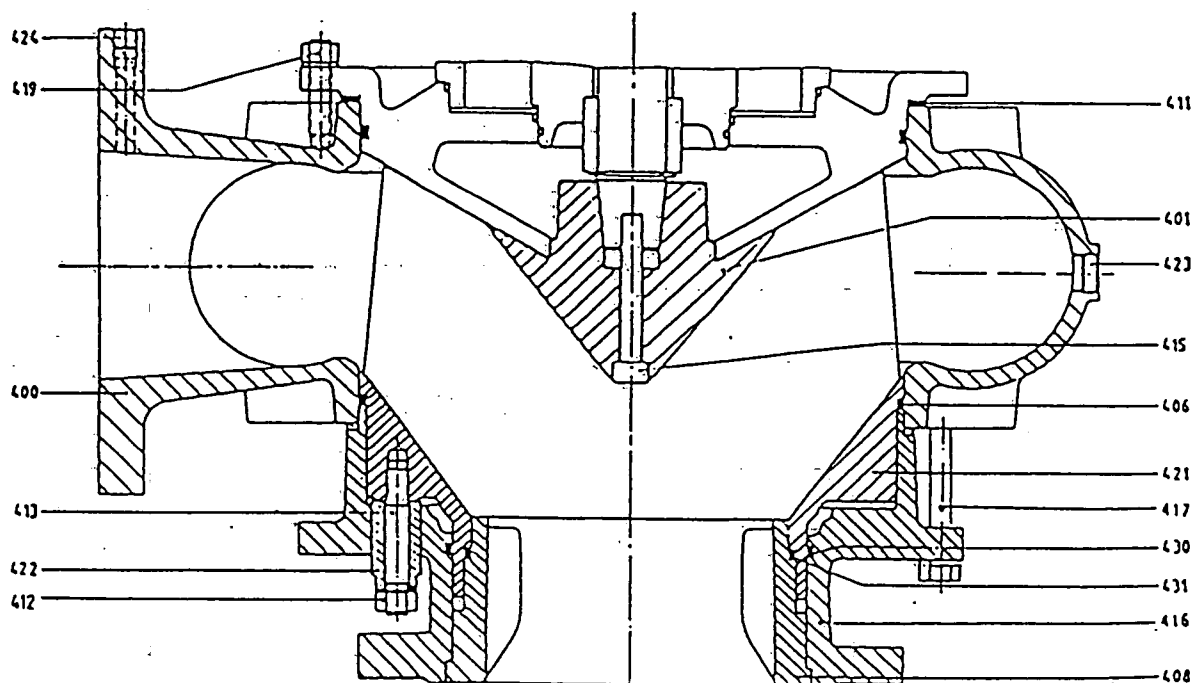

FIGURE 17: E080
The wear ring (408) should not typically require disassembly; remove from suction casing only if badly damaged by unusual circumstances. (It will be necessary to heat the mating surfaces with a torch to destroy the special adhesive between these two parts. Then press out suction ring with a hydraulic press.) See Figure 17.